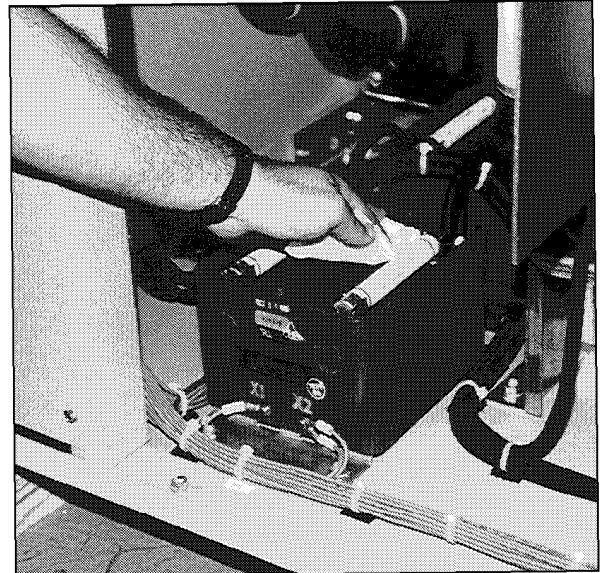

Fig. 48 Inspect Control Power Transformer
- Wipe off the surface of the control power transformer. (Fig. 48)